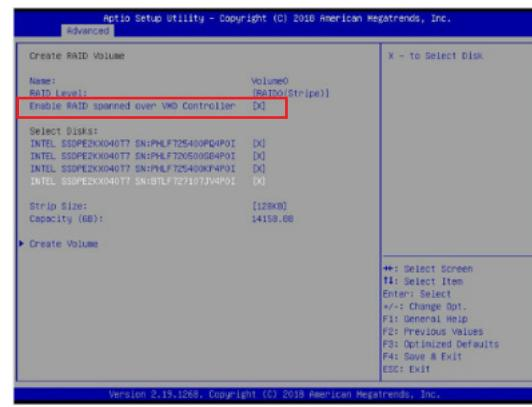

Figure E-4. Created Volume with enabling RAID spanned over VMD controller
11. If cross-controller RAID is required, select **Enable RAID spanned over VMD Controller** as shown in Figure E-4.